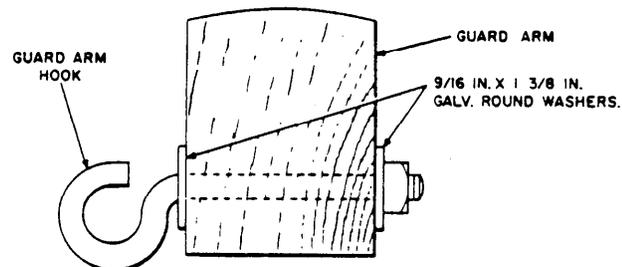

Fig. 7-Guard Arm Hook Installed
- 3.07 Guard arm hooks are used to attach wires to guard arms and cross arms, other than the DE-type, when more than two drop wires must be attached to the same hook. On a guard arm, install the hooks in the holes provided at the ends of the guard arm (Fig. 7).